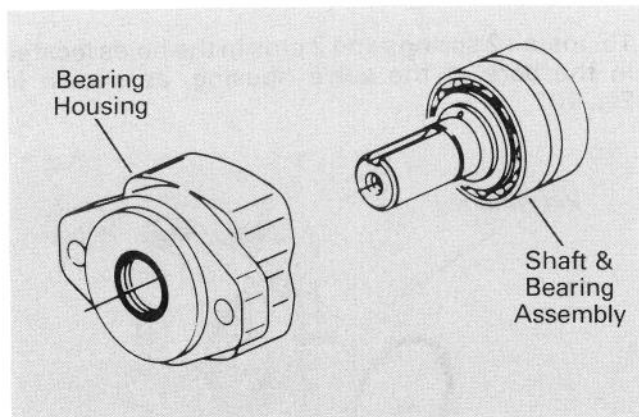

Figure 97
20. You may need a press to remove shaft and bearing assembly from bearing housing (Fig. 97).